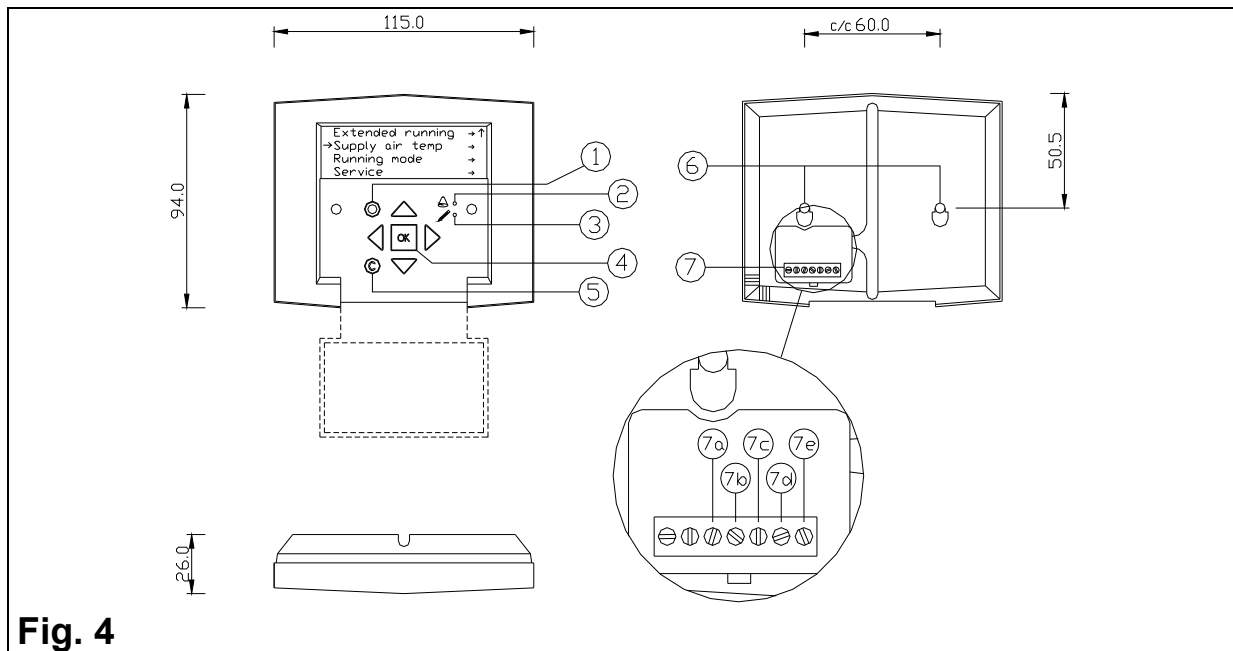

Fig. 4
See **fig 4**.
Alarm button (**pos.1** in **fig. 4**) opens the alarm queue. By pressing this button all active and non-acknowledged alarms will be displayed in the menu window. The LED for alarms (**pos.2** in **fig. 4**) is blinking if there are non-acknowledged alarms and shine steadily if the alarms are still active but have been acknowledged. If there are multiple alarms use UP/DOWN buttons to move between them. An alarm can be acknowledged or blocked by using OK and UP/DOWN buttons. To abort and go back to the start menu select Cancel and press the LEFT button.